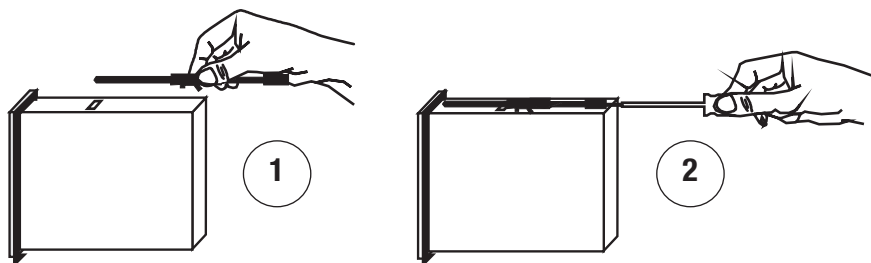

Fig. 2
Installation in control cabinet Fig. 2.
2. Mount the industrial controller KS 90-1 using the fixing clamps supplied with the equipment. **Fig. 2**
If a gasket is inserted between the front and the control panel the panel front has protection class IP 65. **Fig. 2**